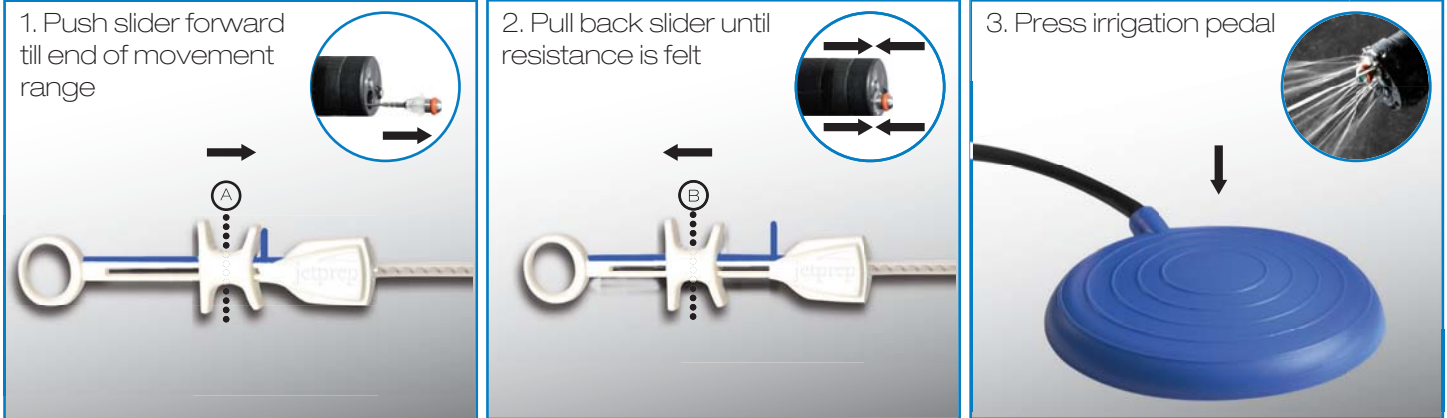

Figure 3: For spraying, handle slider is moved to Position B.
- 7.1 For spraying, place the JET PREP Flushing Device distal tip on the distal end of the working channel by adjusting the handle slider to position B (see Figure 3), and deliver fluid.